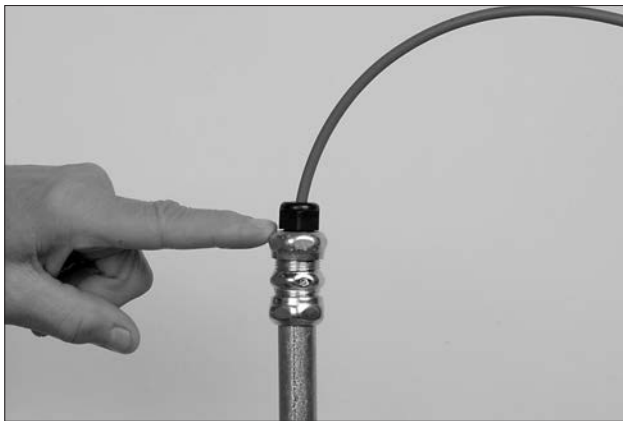

FIGURE 5-96
11. Tighten nut on strain relief on top of conduit riser. See Figure 5-96.